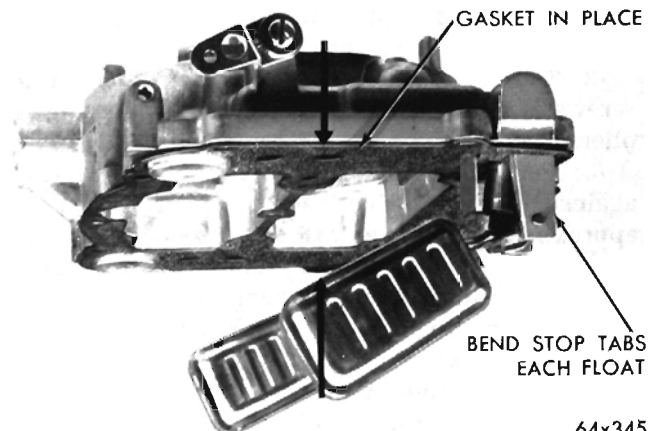

Fig. 11—Checking Float Drop
(1) Holding air horn in an upright position, measure distance from the top of floats (outer end) to the air horn gasket, as shown in (Fig. 11). This measurement should be 3/4 inch. If an adjustment is necessary, bend the stop tabs on float levers until correct drop setting has been obtained. Bend tab toward the needle seat to lessen drop, or away from seat to increase drop.
(2) After floats have been checked and adjusted, continue to assemble the carburetor as follows:
(3) Place accelerator pump plunger lower spring in